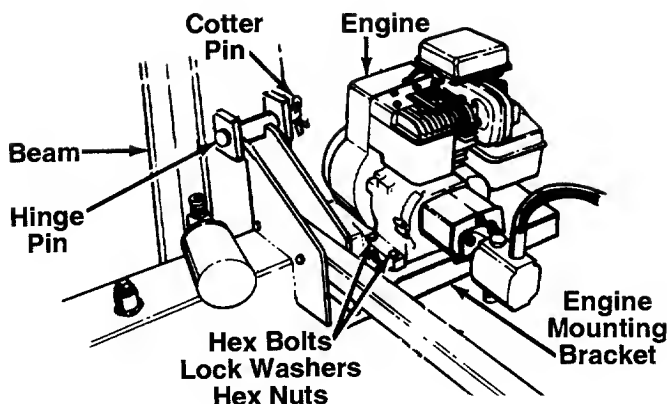

FIGURE 6.
2. Remove the cotter pin and the hinge pin, located on top of the reservoir tank assembly. Move the reservoir tank assembly in position against the beam. See figure 6. Line up holes by lifting hitch end of assembly.
Place the engine and pump assembly in position on the side of the reservoir tank assembly as shown in figure 6. Secure with hardware found in the plastic bag. Insert hex bolts from the top. Secure with lock washers and hex nuts, tightening securely.